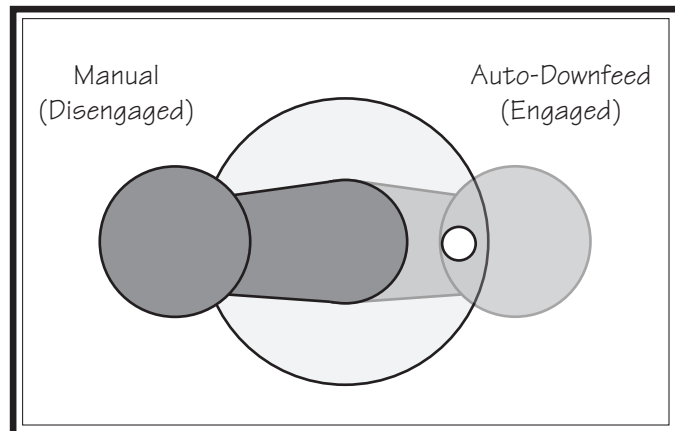

Figure 45. Downfeed selector in manual (disengaged) position.
2. Pull downfeed selector knob out, and rotate it clockwise until selector pin under knob seats in forward manual (disengaged) position, as shown in **Figure 45**.
2. Pull downfeed selector knob out, then rotate selector clockwise until selector pin seats in forward manual (disengaged) position (see **Figure 45**).